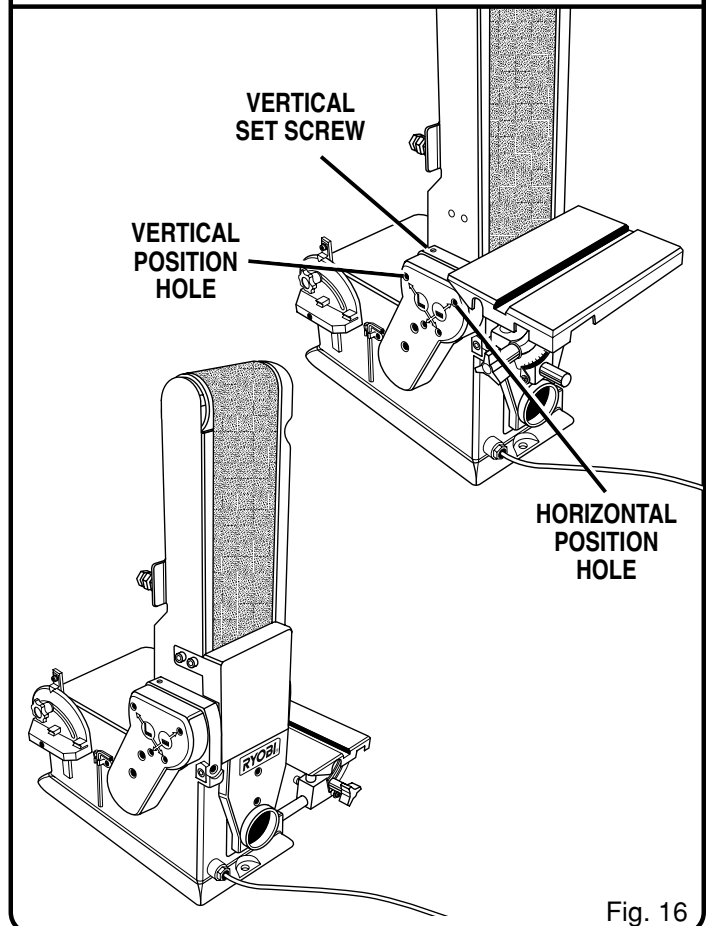

Fig. 16
See Figure 16.
- Move the sanding belt into a vertical position as shown in Figure 16. Vertical position can be changed using the vertical set screw.